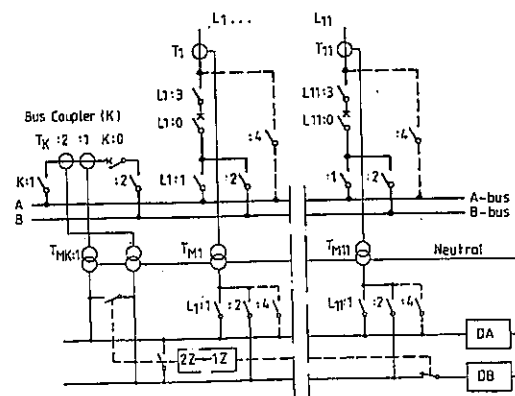

Fig. 3 Double bus, 2-zones with switching of CT secondary circuits. A bypass switch :4 may be added.
One of the most commonly used arrangements is the double bus, with bus coupler and one circuit breaker per line (Fig. 3). When one line, which is connected to say the A-bus (L1:1 closed), has to be switched to the B-bus, the following sequence is used:
The arrangement then used is shown in fig. 7, which also applies to the double bus in fig. 3. In this tripping scheme it is indicated how to include, most easily, a Breaker Failure Relay (BFR).
Fig. 7 Trip circuit for the double bus shown in Fig. 3 with bypass switch (:4). Each trip unit (TU) can trip six circuits at high speed. Breaker Failure Relays can easily be included.